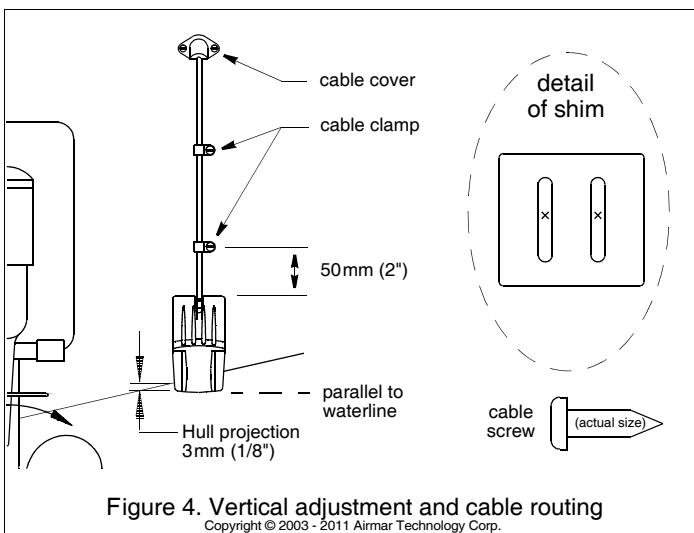

Figure 4. Vertical adjustment and cable routing
1. At the selected location position the transducer, so it projects 3mm (1/8") below the bottom edge of the transom (see Figure 4).
2. Using the vertical adjustment space in the bracket slots, slide the transducer up or down (see Figure 4). Be sure the bottom left corner of the transducer projections 3mm (1/8") below the bottom of the hull.
- Move the transducer deeper into the water in increments of 3mm (1/8") (see Figure 4).
- If a hole must be drilled through the transom, choose a location **well above the waterline** (see Figure 4). Check for obstructions such as trim tabs, pumps, or wiring inside the hull. Mark the location with a pencil. Drill a hole using the appropriate size bit to accommodate the connector.